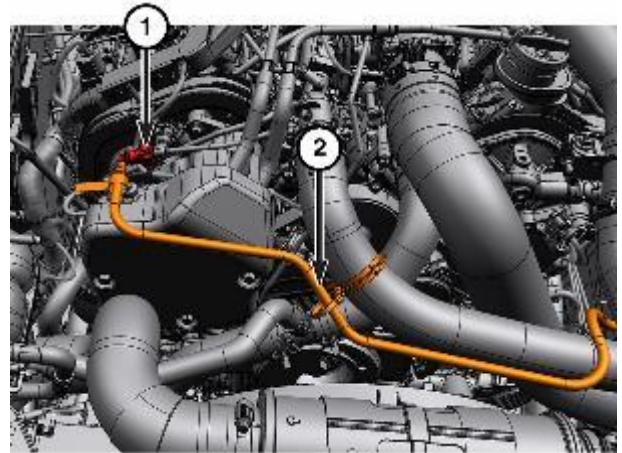

Figure 3 – Vacuum Line
6. Disconnect the quick-connect fitting (1) and set the vacuum line (2) aside (Figure 3).